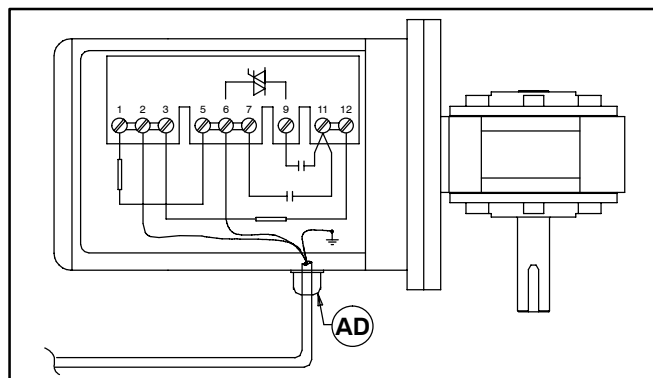

Figure 23
- b. Record wire colors on terminals 2, 6 and ground ( $\perp$ ) (Figure 23). Loosen terminals 2, 6 and ground and remove wires.
- c. Loosen cord grip (AD of Figure 23) and remove cord.